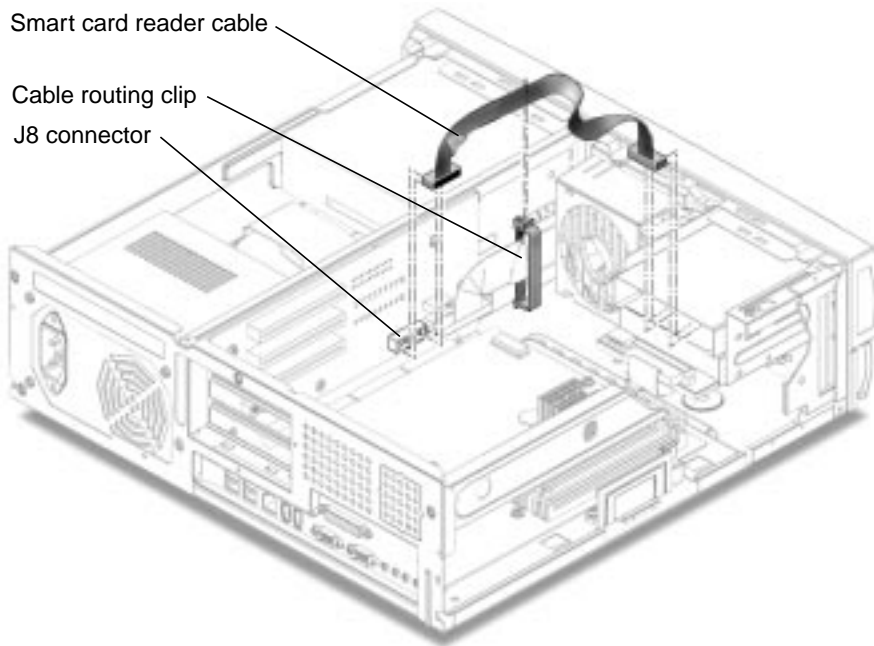

FIGURE 6-6 Removing and Replacing the Smart Card Reader Cable Assembly
2. **Disconnect the smart card reader cable assembly connectors from the following (FIGURE 6-6):**
1. **Replace the smart card reader cable assembly as follows (FIGURE 6-6):**